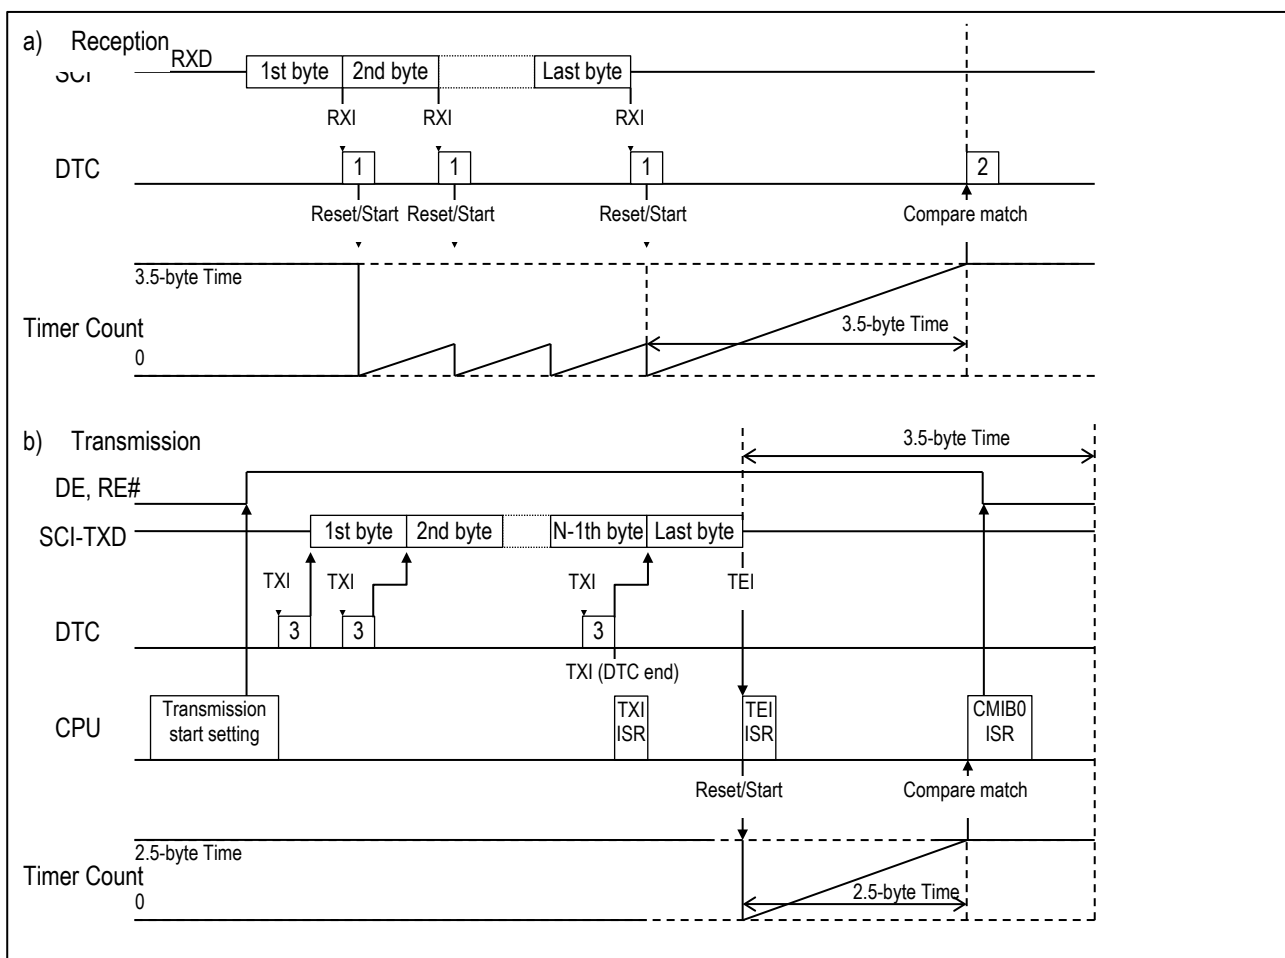
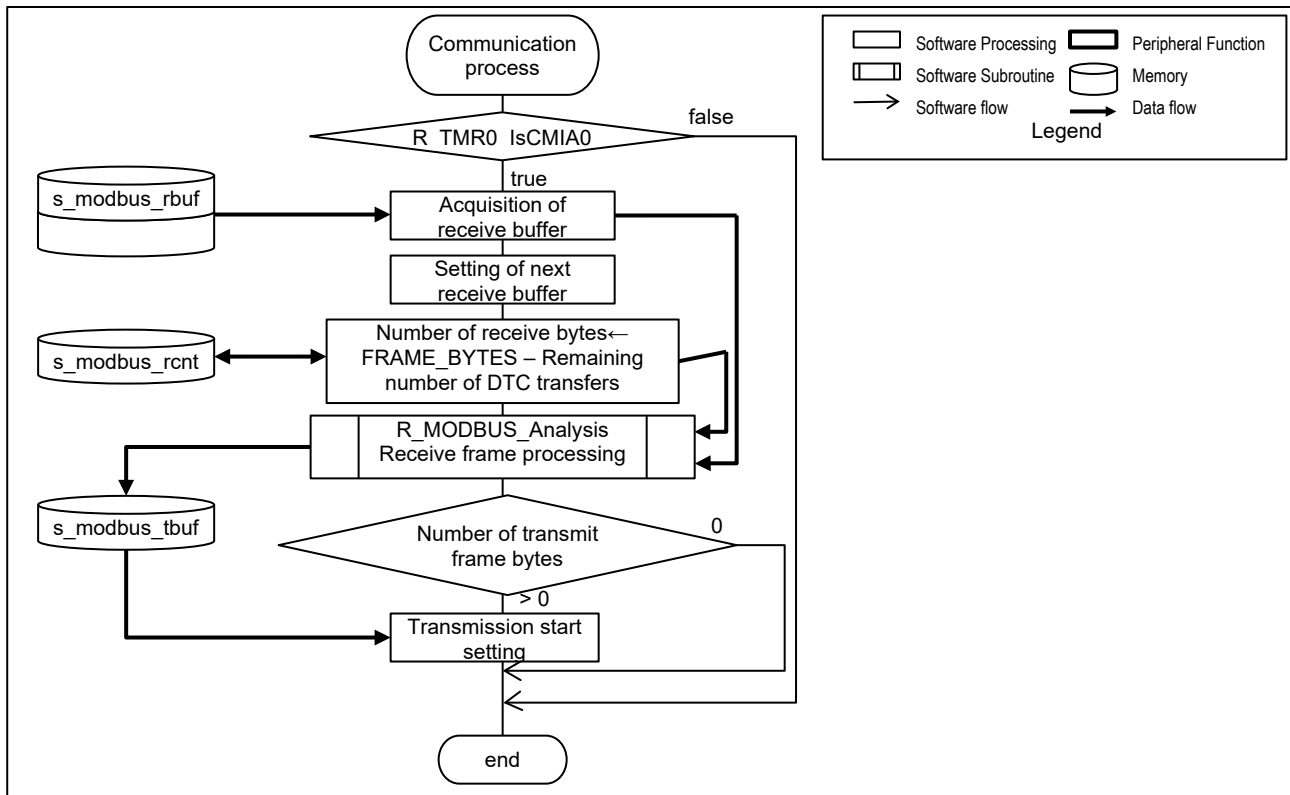

Figure 8-3 Modbus Communication Timing Chart
Figure 8-4 Modbus Communication Process Flow
A communication timing chart is shown in Figure 8-3, and the communication process flow is shown in Figure 8-4.
- (1) At the RXI1 interrupt request for every 1-byte reception, DTC transfer 1 (DTC_RXI1) performs the following:
- (2) On TMR0 compare match A interrupt request (CMIA0), DTC transfer 2 (DTC_CMIA0) performs the following:
- (3) As shown in Figure 8-4, when CMIA0 is detected, the program acquires and clears the DTC transfer count and processes the Modbus receive frame in the receive buffer.
- (1) To prepare for transmission, the program performs the following in "Transmission start setting" in Figure 8-4.
- (2) On TXI1 interrupt request, DTC transfer 3 (DTC_TXI1) transfers 1 byte of the transmission frame to the transmission register.
- (3) On TXI1 interrupt request due to the completion of DTC transfer 3 (DTC_TXI1), the interrupt handler performs the following actions:
- (4) On TEI1 interrupt, the interrupt handler performs the following actions: